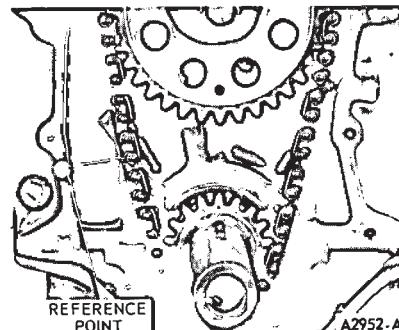

FIG. 18—Checking Timing Chain Deflection—V-8 Engine
2. Establish a reference point on the block and measure from this point to the chain (Fig. 18).